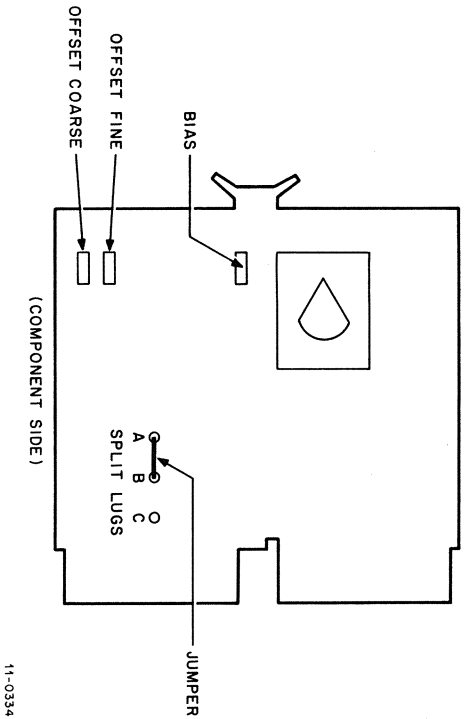

Figure 2-4 A405 Sample and Hold
- Ensure that split lugs A and B on the A405 Module are connected (see Figure 2-4).
| 5 | Adjust bias potentiometer (see Figure 2-4) on A405 Module for 001 776 _g to 001 777 _g on console DATA indicators. |
| 2 | Ensure that split lugs A and B on the A405 Module are connected (see Figure 2-4). |
| 5 | Adjust bias potentiometer (see Figure 2-4) on A405 Module for 000 001 _g to 000 000 _g on console DATA indicators. |